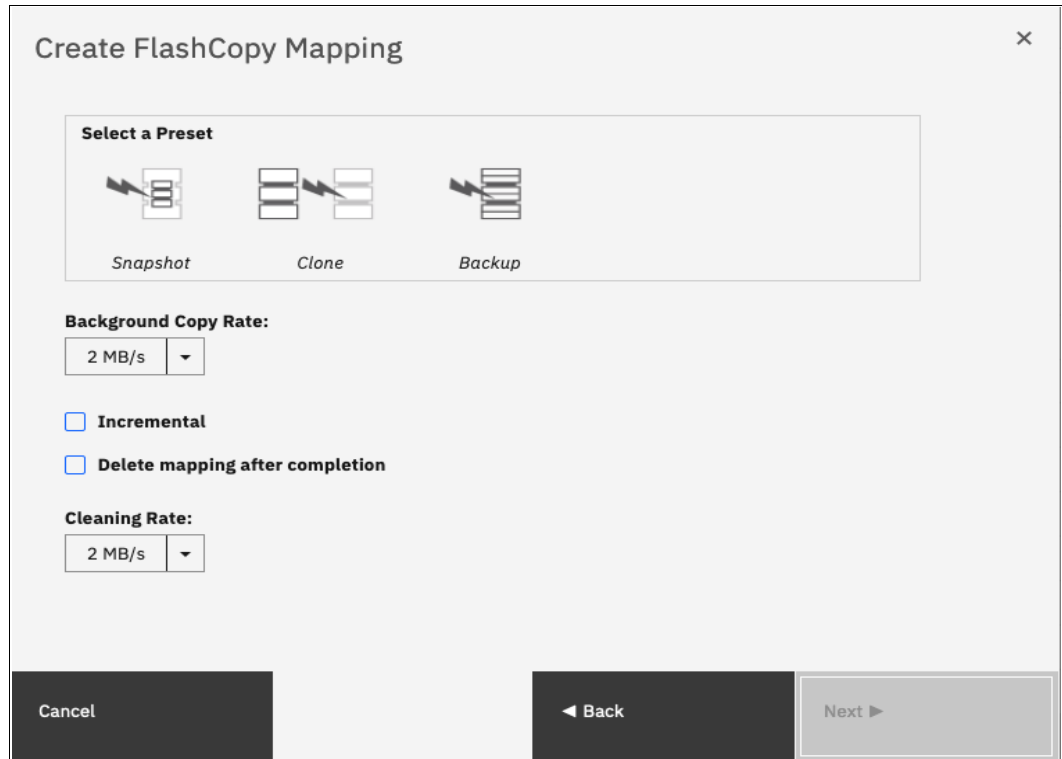

Figure 10-25 FlashCopy mapping preset selection
2. In the next window, select one FlashCopy preset. The GUI provides the following presets to simplify common FlashCopy operations, as shown in Figure 10-25 on page 593. For more information about the presets, see 10.2.1, “FlashCopy presets” on page 584: